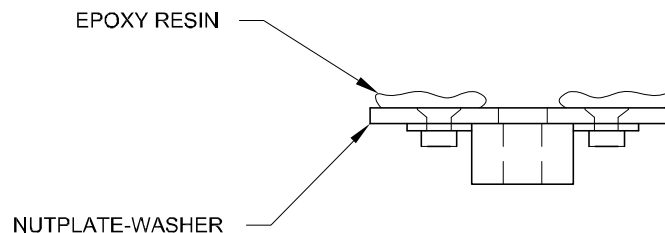

Figure C-17 Nutplate Washers
14. Apply epoxy resin to the flat side of the nutplate washers, see Figure C-17.